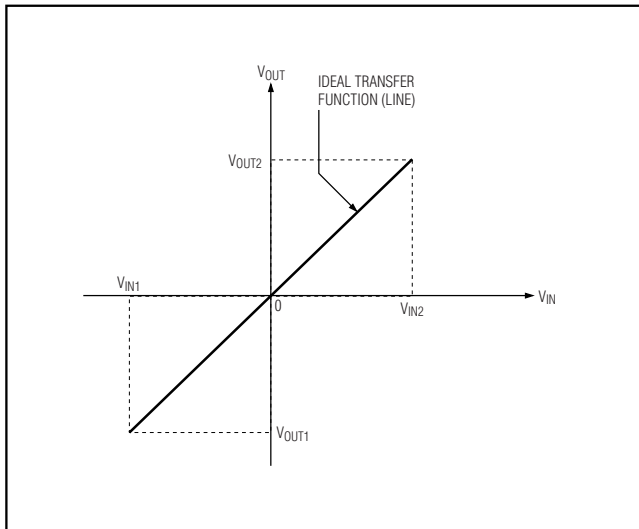
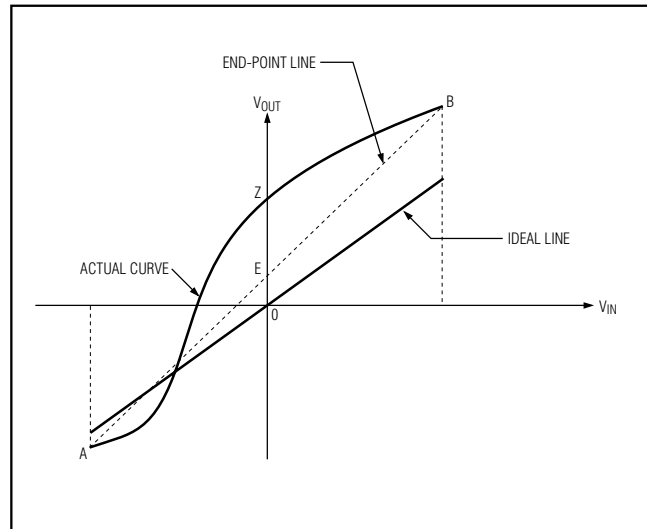
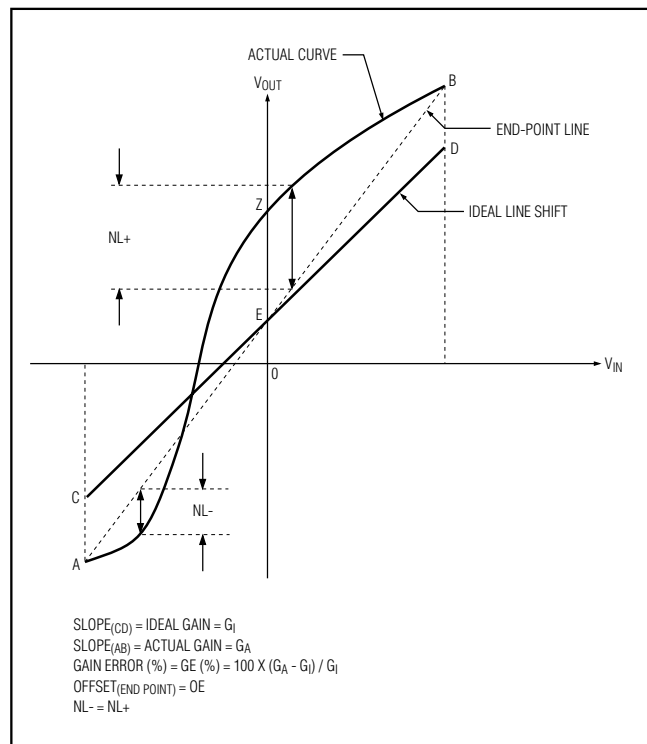

Figure 3. Transfer Function of an Ideal Instrumentation Amplifier (Straight Line Passing Through the Origin)
Figure 4. Typical Transfer Function for a Real Instrumentation Amplifier
Figure 5. Typical Transfer Function for a Real Instrumentation Amplifier (Ideal Line (CD) Is Shifted by the End-Points Offset (OE) to Visualize Gain Error)
In order to understand these terms, we must look at the transfer function of an ideal instrumentation amplifier. As expected, this must be a straight line passing through origin with a slope equal to the ideal gain (Figure 3). If the ideal gain is equal to 10 and the extreme applied input voltages are -100mV and +100mV, then the value of the output voltages are -1V and +1V, respectively. Note that the line passes through the origin and therefore a zero input voltage gives a zero output response.
The transfer function of a real instrumentation amplifier is quite different from the ideal line pictured in Figure 3. Rather, it is a curve such as the one indicated as the typical curve in Figure 4, connecting end points A and B.
Second, even if there was no nonlinearity error, i.e., the actual curve in Figure 4 was a straight line connecting end points A and B, there exists an obvious slope deviation from that of an ideal gain slope (drawn as the “ideal” line in Figure 4). This rotational error (delta slope) is a measure of how different the actual gain (G_A) is from the expected ideal gain (G_I) and is called gain error (GE) (see the equation below).
Figure 5 is the same as Figure 4, but the ideal line (CD) is shifted up to pass through point E (the Y intercept of end-points line AB).
The rotational nature of gain error, and the fact that it is pivoted around point E in Figure 5, shows that gain-error contribution to the total output voltage error is directly proportional to the input voltage. At zero input voltage, the error contribution of gain error is zero, i.e., the total deviation from the origin (the expected zero output value) is only due to end-points OE and nonlinearity error at zero value of input (segment EZ on the vertical axis).
The nonlinearity is the maximum deviation from a straight line, and the end-point nonlinearity is the deviation from the end-point line. As shown in Figure 5, it is likely that two nonlinearities are encountered, one positive and the other a negative nonlinearity error, shown as NL+ and NL- in Figure 5.